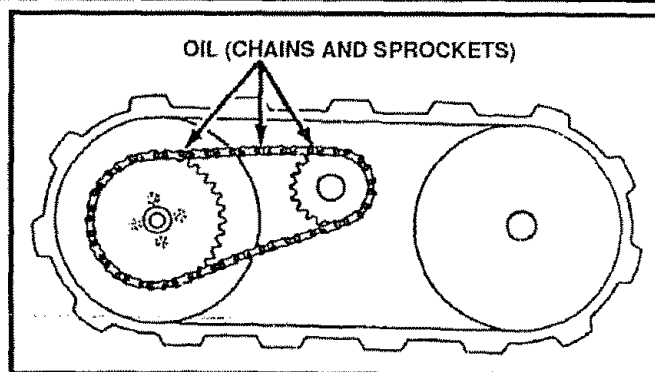

FIG. 17
- Chain and Sprockets - Oil chains and sprockets (See Fig 17) with 10W-30 oil (or equivalent) after 10 hours use and at the end of each season.